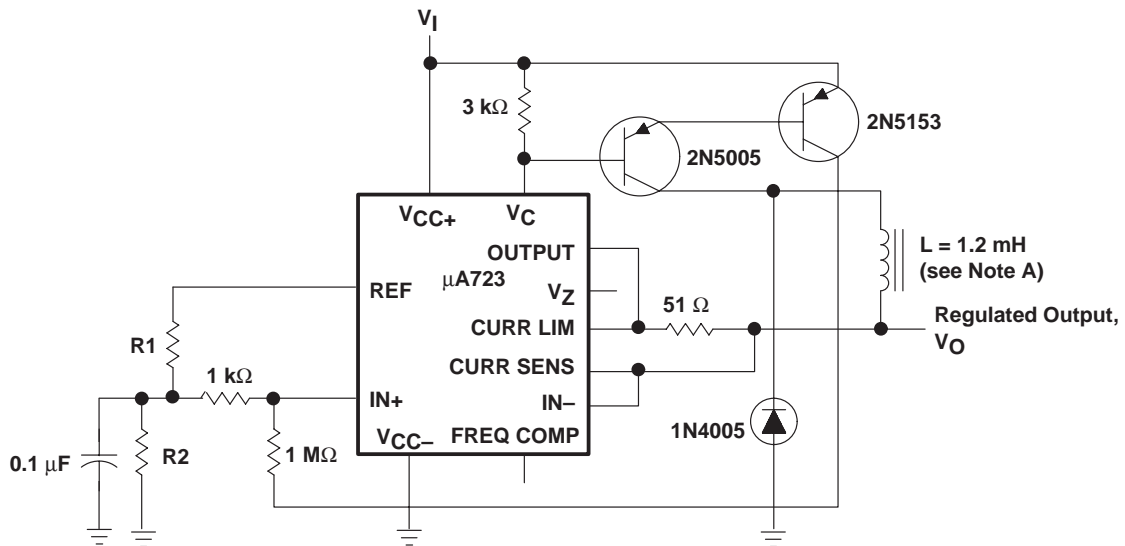

**Figure 7. Positive Floating Regulator**
| OUTPUTS FROM 2 V TO 7 VSEE FIGURES 1, 5, 6, 9, 11, 12 (4)AND NOTE 5   | OUTPUTS FROM 4 V TO 250 VSEE FIGURE 7 AND NOTE 5                     | CURRENT LIMITING  |